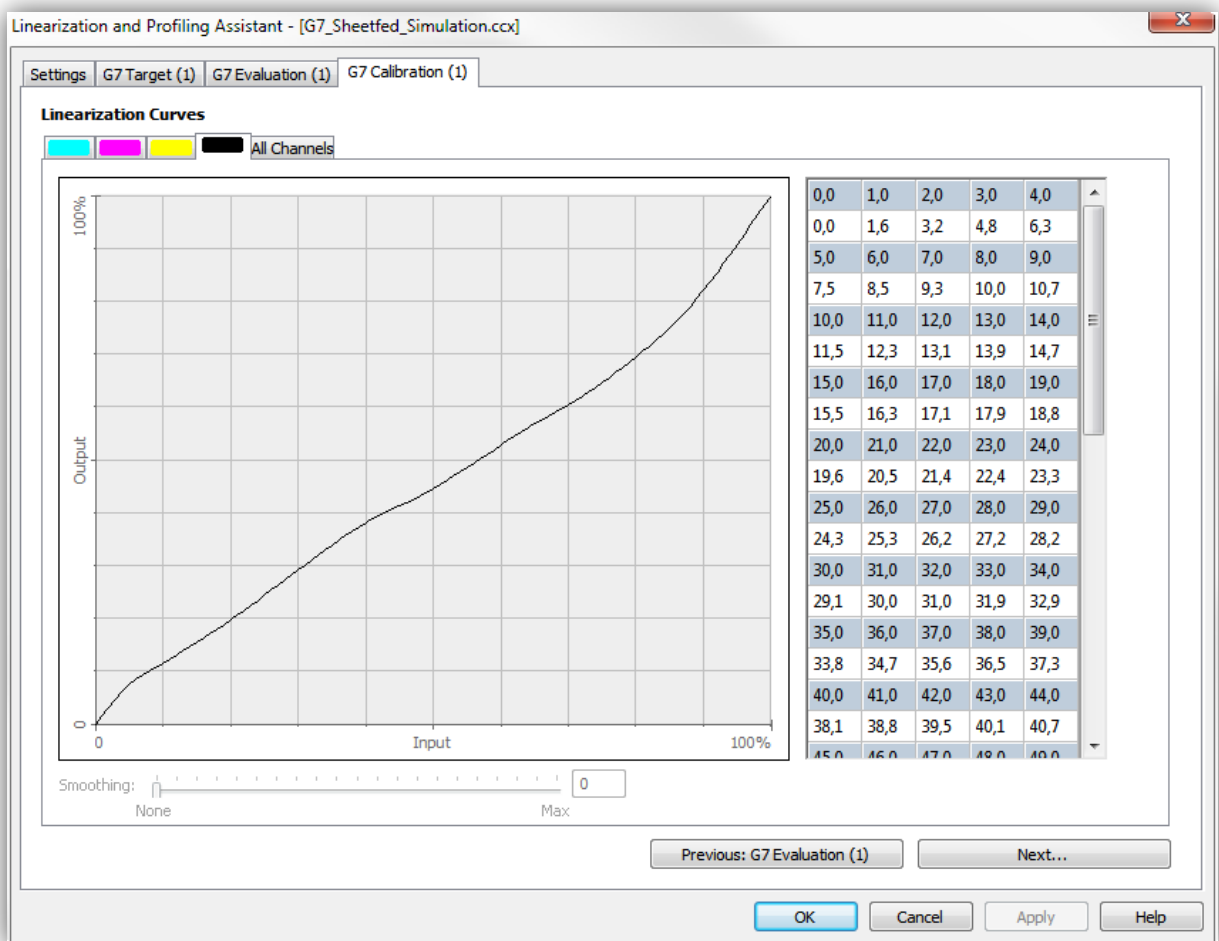

Fig.3 Corrected curve data to be transferred to third party applications
- Curve corrections are displayed and can manually be transferred to the third party application (*see Fig. 3 in Annex A*)